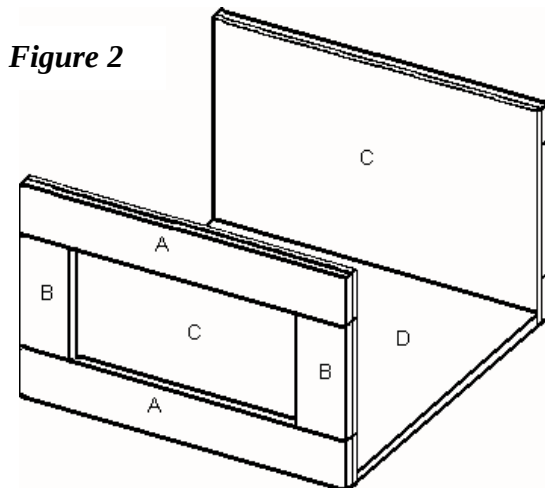
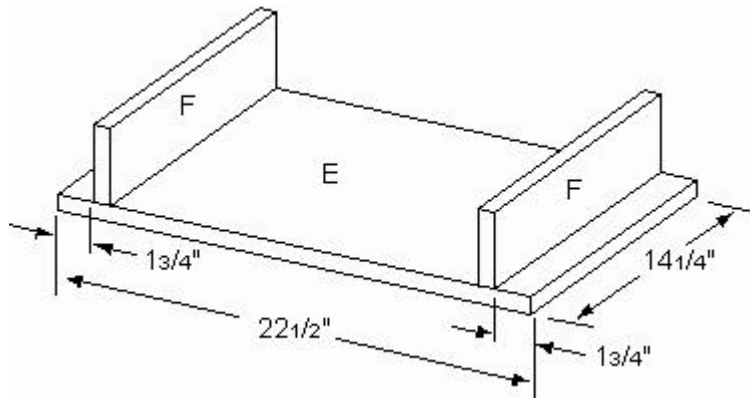

Figure 2
Figure 3
1. Cut one back (D) from 3/4-inch plywood, measuring 22-1/2 x 23 inches.
3. Place the back (D) between the two side assemblies, matching the 23-inch edges, as shown in *Figure 2*. Nail through the side assemblies into the edge of the back (D) using 1-1/2-inch (4d) nails placed every 4 inches.
4. Cut two shelves (E) from 3/4-inch plywood, each measuring 22-1/2 x 14-1/4 inches.
5. Cut two drawer guides (F) from 1 x 4 pine, each measuring 14-1/2 inches long.
6. Attach both drawer guides (F) to one shelf (E), 1-3/4 inches from each 15-inch edge, as shown in *Figure 3*. Nail through the shelf (E) into the edges of the drawer guides (F), using four 1-1/2-inch (4d) nails on each joint.